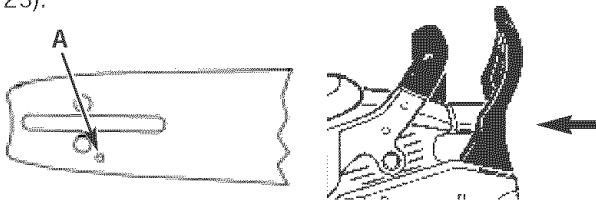
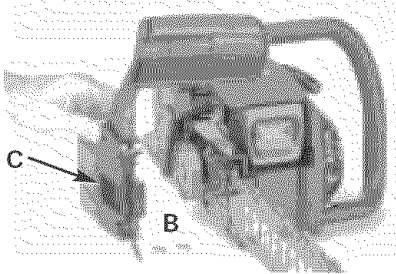
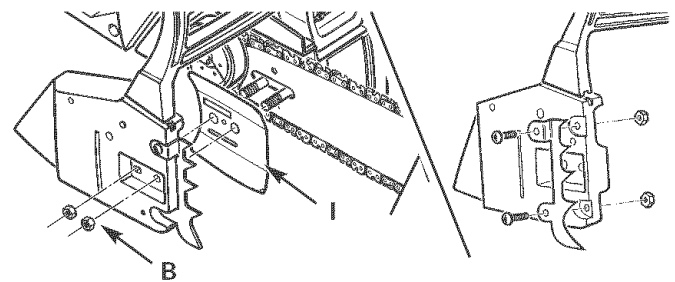
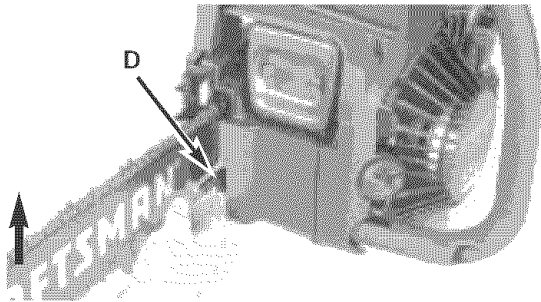

Fig. 21
Fig. 22
Fig. 27
Fig. 28
CAUTION: To ensure the bar and chain receive oil, **ONLY USE THE ORIGINAL STYLE BAR** with the oil passage hole (A) as illustrated in Fig. 21.
1. Make sure the Chain Brake® lever is pulled back into the DISENGAGED position (Fig. 21). Remove bar retaining nuts with supplied multi-purpose tool (Fig. 22).
2. Remove chain brake cover (C, Fig. 22) and outer guide bar plate (I, Fig. 27) by pulling straight out (Fig. 22).
6. Replace the outer guide bar plate (I) so the bent edges (top and bottom) are directed away from the chain (Fig. 27).
7. Install the Chain Brake® cover (Fig. 27). Make sure the chain does not slip off of the bar. Install the 2 bar retaining nuts hand tight and follow instructions in Saw Chain Tension Adjustment.
1. Loosen the bar retaining nut(s) (B, Fig. 27). Hold nose of guide bar up and turn adjustment screw (D) CLOCKWISE to increase chain tension. Turning screw COUNTERCLOCKWISE will decrease amount of tension on chain. Ensure the chain fits snugly all the way around the guide bar (Fig. 28).